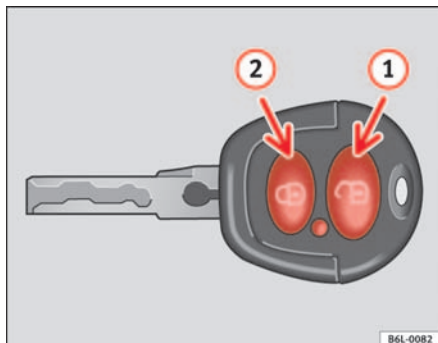
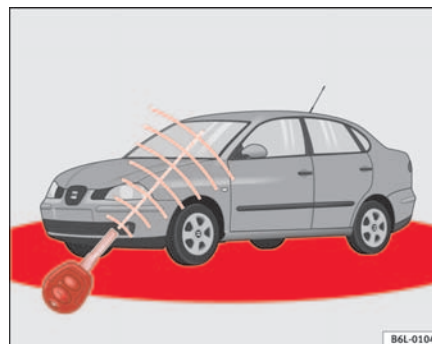

Fig. 47 Assignment of buttons on the remote control key
Fig. 48 Range of the remote control
The range (red zones) ⇒ fig. 48 of the remote control is shown in the diagram. The maximum range depends on a number of circumstances.
To **open**, place the key within the range, pointing towards the vehicle and briefly press the open button  ⇒ fig. 47 **1**. The indicators flash twice. To ►
close the vehicle, press the close button briefly  ⇒ fig. 47 . The indicators flash once.
By pressing the locking button **twice**  ⇒ page 76, fig. 47  both the locking security mechanism (double) and the volumetric alarm* are deactivated but the perimetric alarm* remains active and this is indicated by the indicator light on the driver's door.
When the button  ⇒ page 76, fig. 47  is used the driver's door is unlocked, all others remain locked.
Press the button  ⇒ page 76, fig. 47  twice to unlock all doors.
- The remote control functions only when you are in range ⇒ page 76, fig. 48 (red area).
- Use both keys that have been delivered with the vehicle; the key with the remote and the normal key ⇒ page 76, fig. 47 ⇒ page 76, fig. 48. ▶